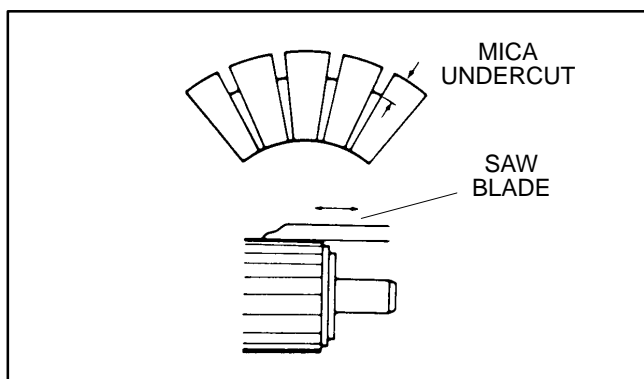

FIGURE 30. COMMUTATOR MICA UNDERCUT
**Commutator:** See Figure 30. Clean the commutator surface with sandpaper. Measure the diameter at several locations around the commutator. Turn the commutator in a lathe if it is not round or has deep pits. Replace the armature if it is necessary to turn the diameter of the commutator to less than 1-1/16 inch (27 mm).